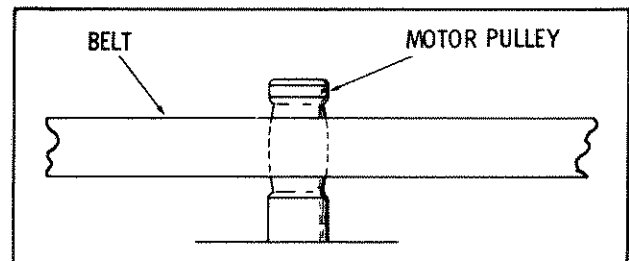

Fig. 2. Belt Position on Motor Pulley
While the turntable is turning, inspect the belt to make sure it is riding in the correct position on the motor pulley. (Fig. 2).
4. Belt rubbing on cover.	4. Adjust belt position (Fig. 2) as described under "Adjustments".
3. Incorrect belt position (K-33H and N-33H only).	3. Adjust belt position (Fig. 2) as described under "Adjustments".